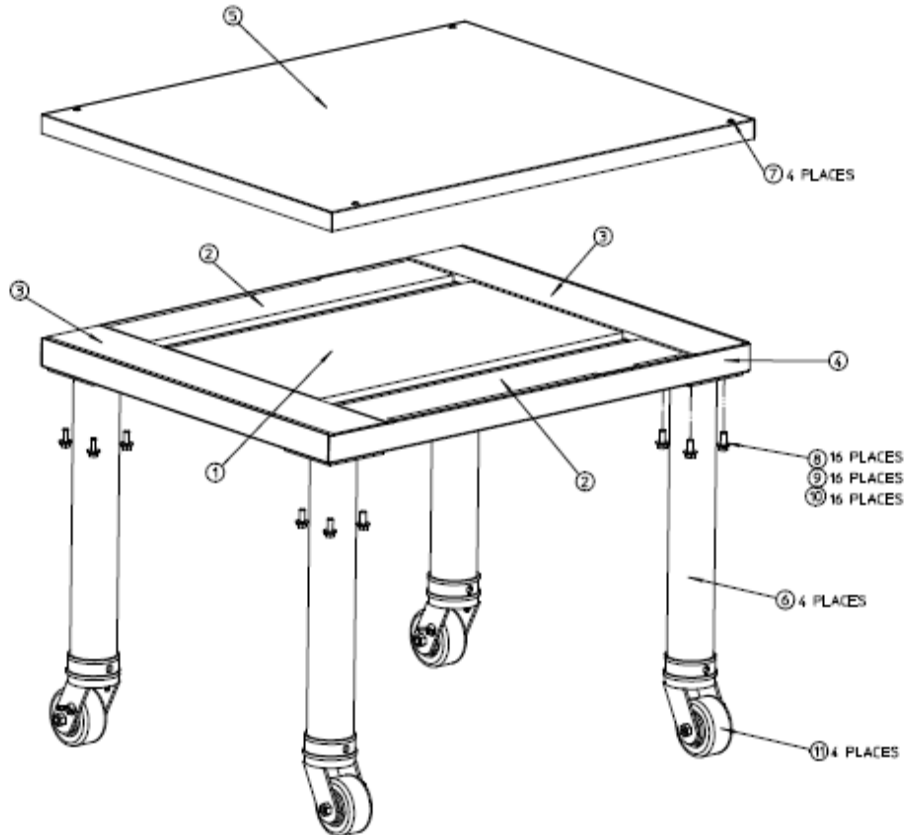

Figure 2-1
1. Locate the carton containing the oven base. Remove and inventory the contents. Refer to the correct parts lists below and also to Figure 2-1.
- Lay Wldmt. Base (Item 4, Figure 2-1) upside down on the floor and remove the protective film from base. Attach the four Assy. Leg, Caster (Item 5) using 16 SCR, Cap HX HD 3/8"-16X1" NP (Item 10), 16 Washer, Flat SS 3/8" (Item 9), and 16 Washer, Lock Split 3/8" ZP (Item 8). For Quad screw casters directly into basepad.